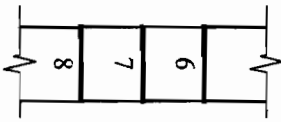

Figure 3-6. Longitudinal Slope
■ **Longitudinal Slope** — Slope *along* the long axis of a plane surface. Figure 3-6 shows a plane surface that has longitudinal slope only—no cross slope. Notice its characteristic ladder-like appearance with the contour lines crossing the plane surface perpendicular to its long axis.